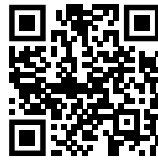

Fig. 155
- ▶ Hapni Liebherr SmartMonitoring Dashboard. (shihni Fig. 155)